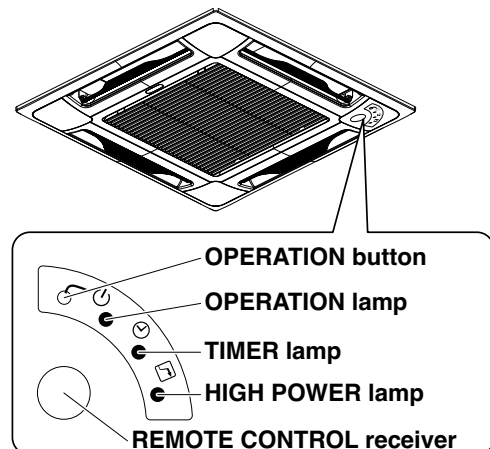

Fig. 11
- This starts the fan producing uncooled forced air with the 3 indicator lamps (OPERATION lamp, TIMER lamp, and HIGH POWER lamp) on the main unit blinking. (Fig. 11)